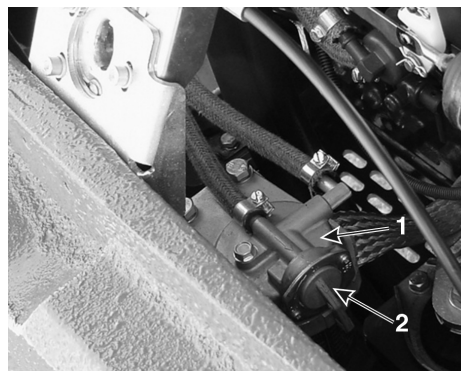
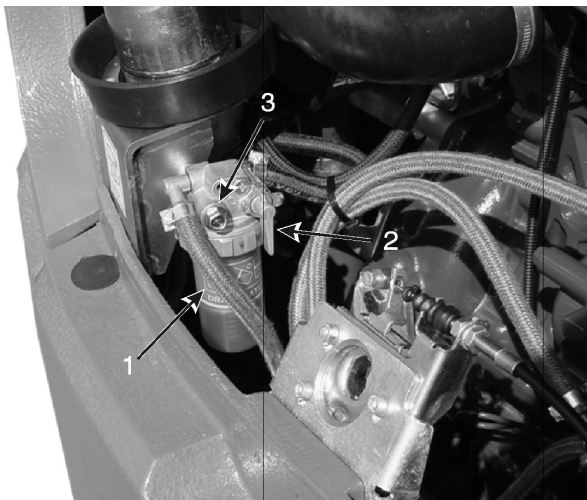

Figure 4-6 Fuel Filter
Figure 4-7 Water Separator
Note: Fuel filter installations may differ slightly from that shown in Figure 4-6.
Hold a container under valve (2, Figure 4-6) on the bottom of the fuel filter to catch draining fuel/water. Open drain valve (2) on the bottom of the fuel filter. Discard fuel/water according to environmental laws. DO NOT pour fluids onto the ground or down a drain.
2. Shut off fuel using the fuel filter shut-off valve (2, Figure 4-6 and Figure 4-7).
- a. Unscrew the clear plastic housing (1, Figure 4-6) to change the filter element
1. Twist the fuel shut-off valve lever (2, Figure 4-7) on the water separator to the (OFF) position.
2. Unscrew plug (3) and collect the water that drains out of the water separator. Allow the water to drain until the indicator ring (1) falls to the bottom of the water separator.
3. Tighten plug (3) and discard fuel/water according to local regulations. DO NOT pour fluids onto the ground or down a drain.
4. Twist the fuel shut-off valve (2) on the water separator to the (ON) position.
2. Make sure that the valve on the water separator (2, Figure 4-7) is in the “open” (ON) position.
3. Turn the ignition key to the “I” (ON) position.